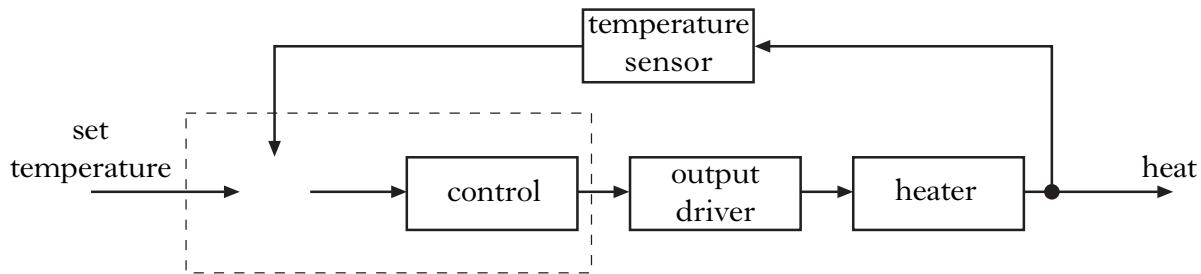

Figure Q7
7. An incomplete control diagram for an oven is shown in Figure Q7.